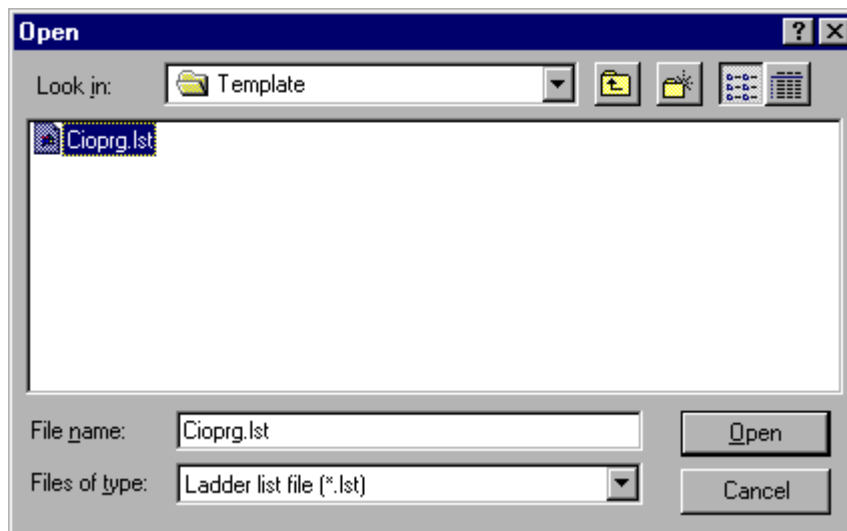

Figure 7-1 [Open] Dialog Box
3. To read in a CMOS file, select “CMOS file (*.HEX)” from [Files of type] combo box in [Open] dialog box in Figure 7-1. When the list of CMOS. HEX files appears, select the CMOS file to be edited, and click the [Open] button.